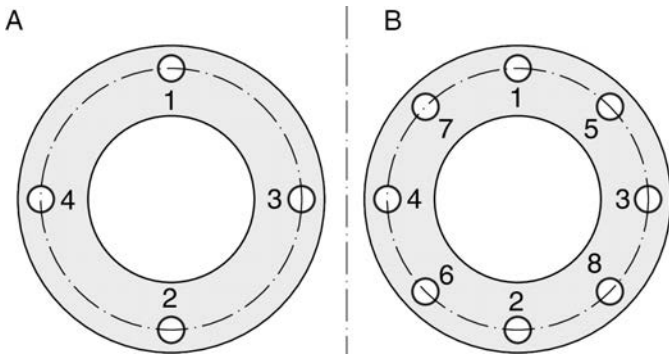

Fig. 19: Flange variants
1. ▶ Tighten the screws crosswise according to Fig. 19, with 30% of the nominal tightening torque.